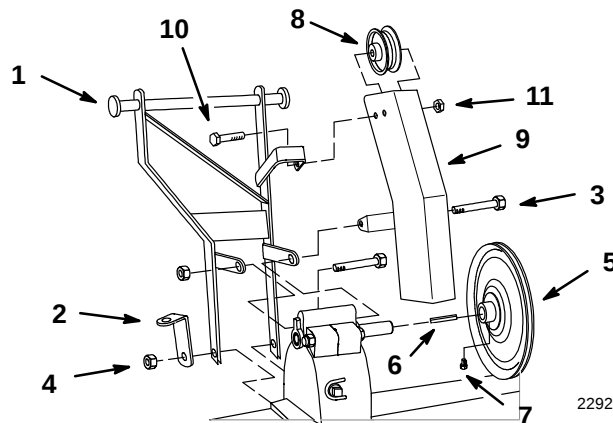

Figure 1
1. Tip tiller onto back and support in an upright position. Remove $\frac{3}{8}$ x 5-1/2" and $\frac{3}{8}$ x 4-1/2" bolts. (Fig. 1). Discard extra nuts used as spacers for shipping.
2. Fasten hitch and spring bracket with bolts and nuts as shown in (Fig. 1). Tighten bolts securely.
3. Install pulley with hub 1/4" in from the end of drive shaft (Fig. 1). Secure with square key and (2) 5/16" square head set screws.
4. Assemble idler and belt guide into lower hole of belt guard and install onto hitch through upper hole with $\frac{3}{8}$ x 2-1/4" bolt and $\frac{3}{8}$ " lock nut (Fig. 1).